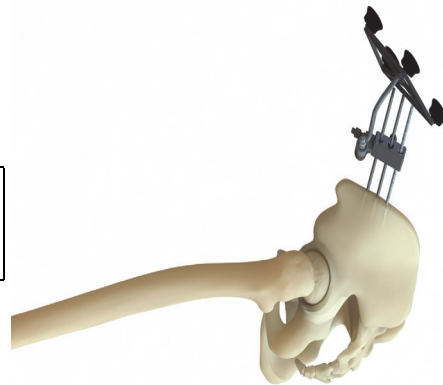

Figure 3. Iliac Crest Tracking Pelvic Array Placement
1. Make a stab incision along the lateral aspect of the iliac crest based on the surgical approach (Figure 3).